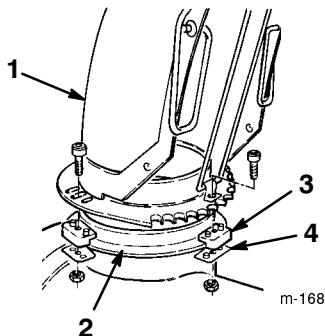

Figure 7
1. Apply a light coat of low-temperature grease to the chute ring (Fig. 7).
2. Set the discharge chute (open side forward) onto the discharge opening so that the plastic chute retainers are on the chute ring (Fig. 7).
3. Tighten the machine screw and the locknut on the left side to position the plastic chute retainer against the chute retainer plate and to secure the discharge chute to the chute ring (Fig. 7).
4. Push the other chute retainers toward the discharge chute (slotted) and tighten the screws (Fig. 7).
5. Make sure that the chute rotates freely on the chute ring. If the chute binds, move the right-hand retainer outward (Fig. 7).